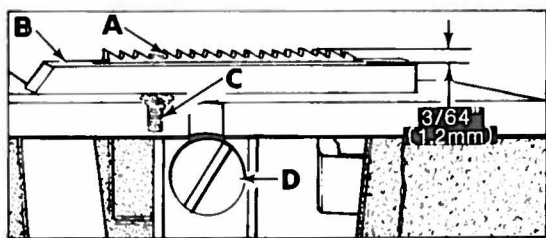

Fig. 9
Feed dog (A, Fig. 9) should be centered in throat plate (B) with equal clearance on all sides and ends with feed travel set to desired stitch length. At highest point of travel, tips of feed dog teeth should extend the depth of a tooth or approximately  $\frac{3}{64}$  inch (1.2mm) above throat plate and parallel to same. Screw (C) should be set to support feed dog after screw (D) has been loosened which secures feed dog in position.